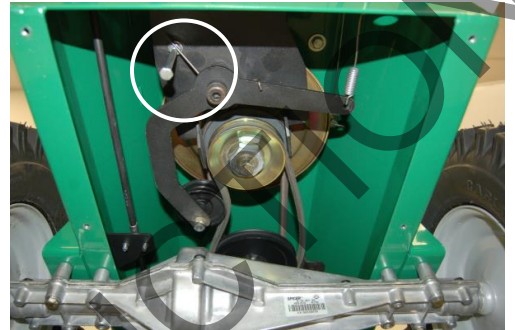

Fig. 9
3. Unattach the spring (item 43) from the bolt (item 107) that is keeping tension on the drive belt. (See Fig. 9)
4. Walk the belt (item 22) off of the clutch (item 3) by slowly pulling the engine over. **WARNING:** use caution not to pinch fingers between the belt and clutch.